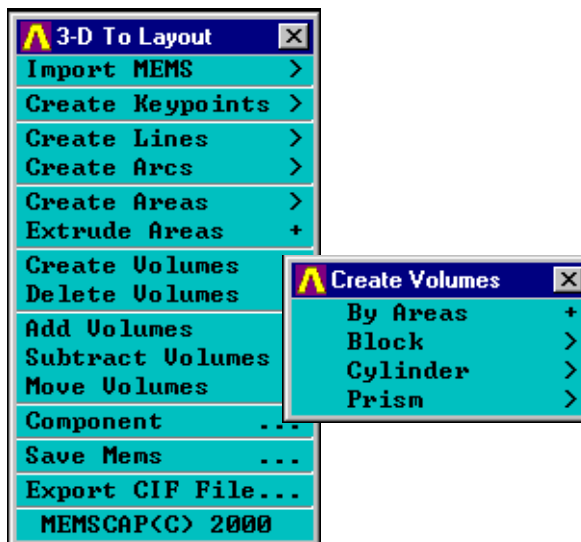

Figure 7: **Create Volumes** button
- ☒ By clicking the **Create Volumes** button, you can create blocks, cylinders, prisms and volumes by areas (Figure 7).